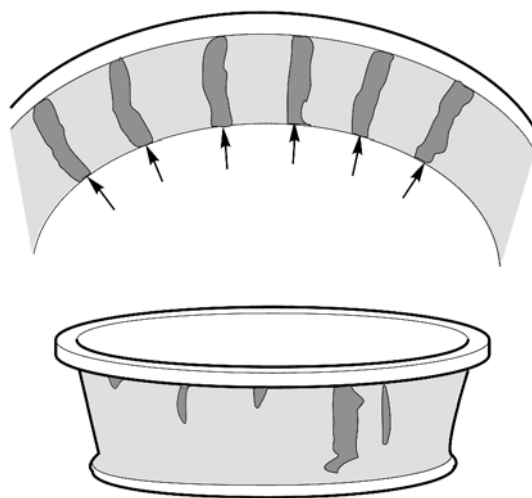

Figure 6.
- (2) Visible step wear, particularly at the small end of the roller track or deep indentations, cracks or breaks in the bearing cup and/or cone surfaces. Refer to Figure 6.